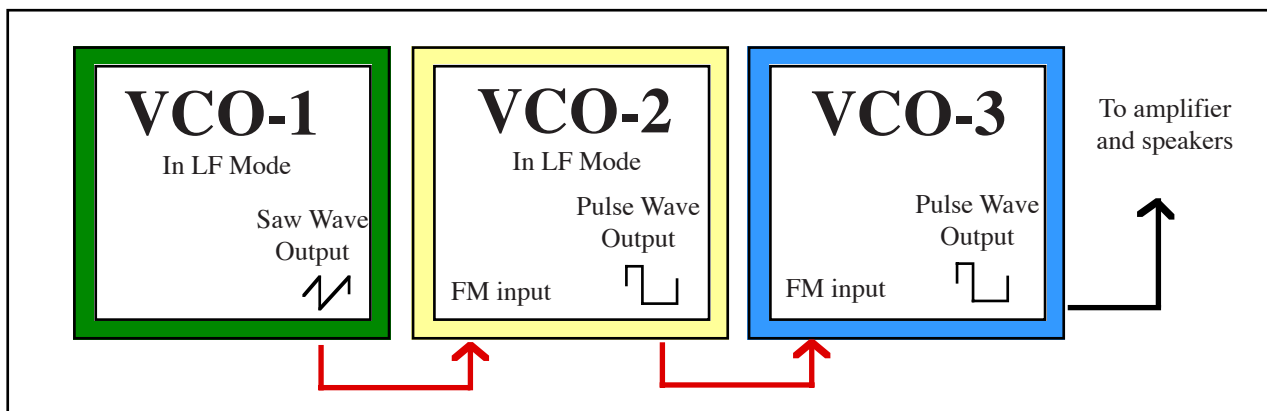

Figure 4-4: A basic series modulation patch
In Figure 4-4, VCO-1 is modulating VCO-2 which in turn modulates VCO-3. VCO-1 is the first modulator, modulating the frequency of VCO-2, which is the carrier. However, VCO-2 is also a modulator as it is modulating the frequency of VCO-3. It's important to understand that an oscillator can be a carrier and a modulator at the same time. However, it is not necessary to have three oscillators to have series modulation. This will become clear how this can be as more modules are discovered. **CD track 14**
The second important concept that series modulation exposes the reader to is a *master-submaster relationship*. In this arrangement, the master selects from a broad range of values, while the submaster fine tunes this selection. A perfect example of the master-submaster relationship are the coarse and fine tuning controls on the VCOs, as described on page 12. The initial frequency slider or coarse tuning slider is the master, and the fine tune slider is the submaster. The master sets the coarse range of possible values, and the submaster chooses the specific value from the range provided by the master. There are several more master-submaster relationships between different controls on the ARP which will be pointed out as they come along. In Figure 4-4, VCO-1 is the master, and VCO-2 is the submaster.
3. Repeat #1, but this time, create the series modulation patch shown in Figure 4-4. Be sure to observe the master-submaster relationship which exists between VCO-1 and VCO-2. **CD track 14**